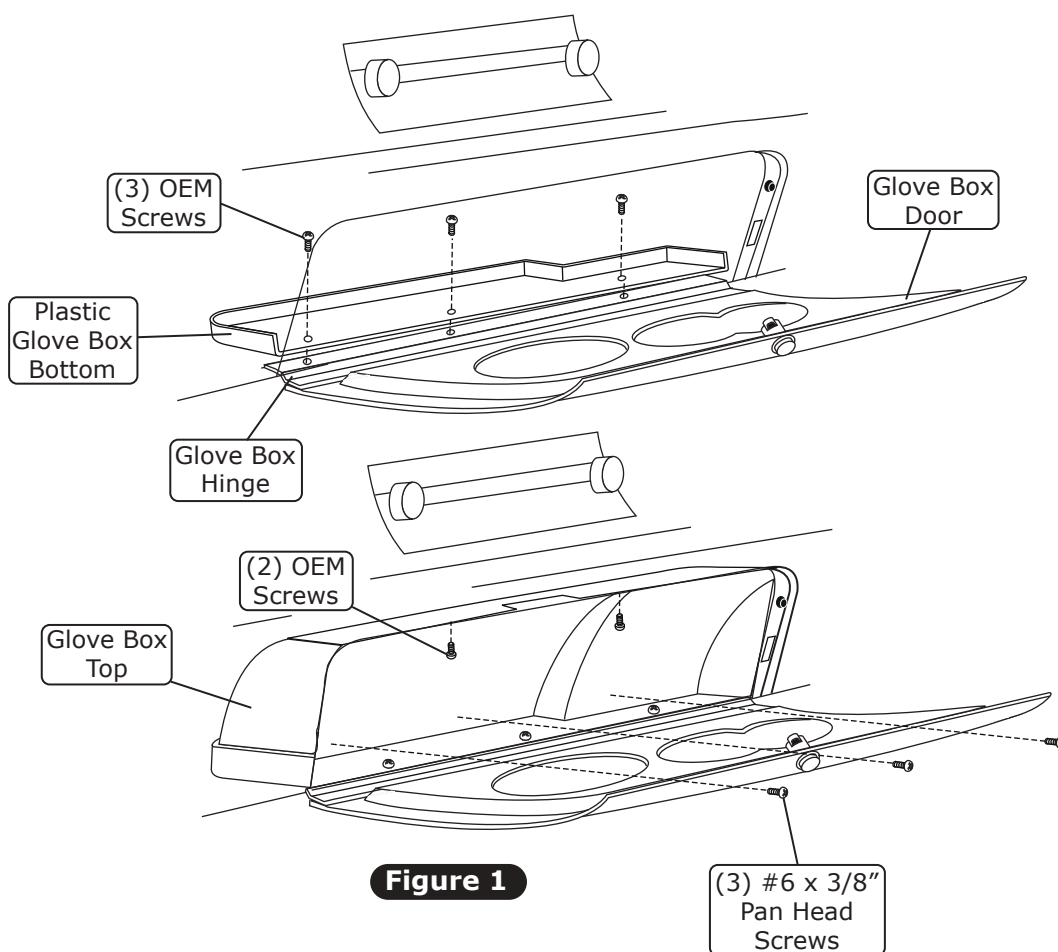

Figure 1
1. Install the glove box bottom and glove box door. Secure to the dash with (3) OEM screws (See Figure 1, below).
2. With the glove box bottom and door in place, install the glove box top as shown in Figure 1, below. Using (3) #6 x 3/8" pan head screws, attach the glove box top to the glove box bottom as shown in Figure 1, below.
3. Secure the glove box top to the dash using (2) OEM screws (See Figure 1, below).